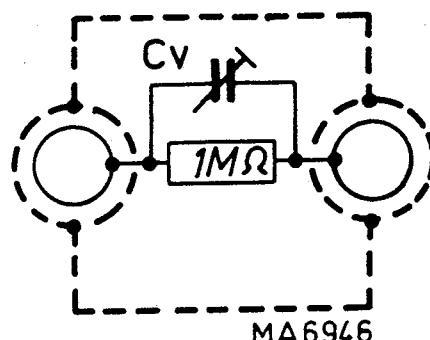

Fig. 3.16. 2:1 Dummy probe
- Set YA (B) AMPL/DIV switch to 2 mV.
- Release 0 pushbutton YA (B).
- Apply a voltage of exactly 12 mV p-p, 10 kHz, to YA (B) input socket.
- Check that the vertical display height is exactly 6 divisions; if necessary, readjust potentiometer 472 (532).
- Release the 0 pushbutton YA (B).
- To equalize the input capacitance in all positions of the AMPL/DIV (i.e. attenuator) switch, for some adjustments, a 2:1 dummy measuring probe is connected in series with YA (B) input socket. The dummy probe consists of the parallel circuit of a 1 $M\Omega$ resistor and a 3-60 pF trimmer (Fig. 3.16.) and is adjusted as indicated in the following table.
- Connect a square-wave voltage with an amplitude as indicated in the following table, a repetition rate of 10 kHz and a rise time not exceeding 100 ns to YA (B) input socket.